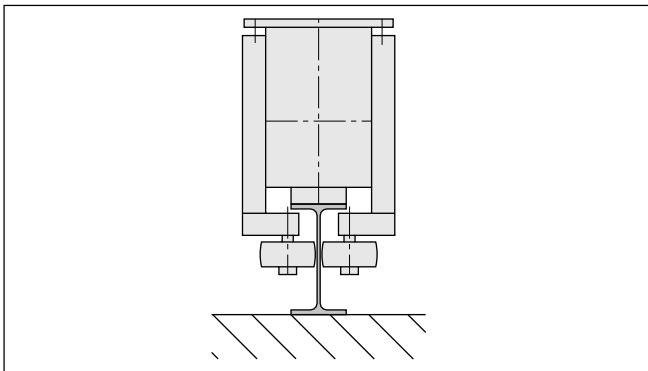

Fig. 3 - Traversing on rails
The lower trolley (3) is in ST37 steel, hot dip galvanised protection. The trolley (3) and the turret (1) are connected by a powered slewing ring (2). The trolley is guided along the track by guide wheels (8) attached to the wheel box (Fig. 3).